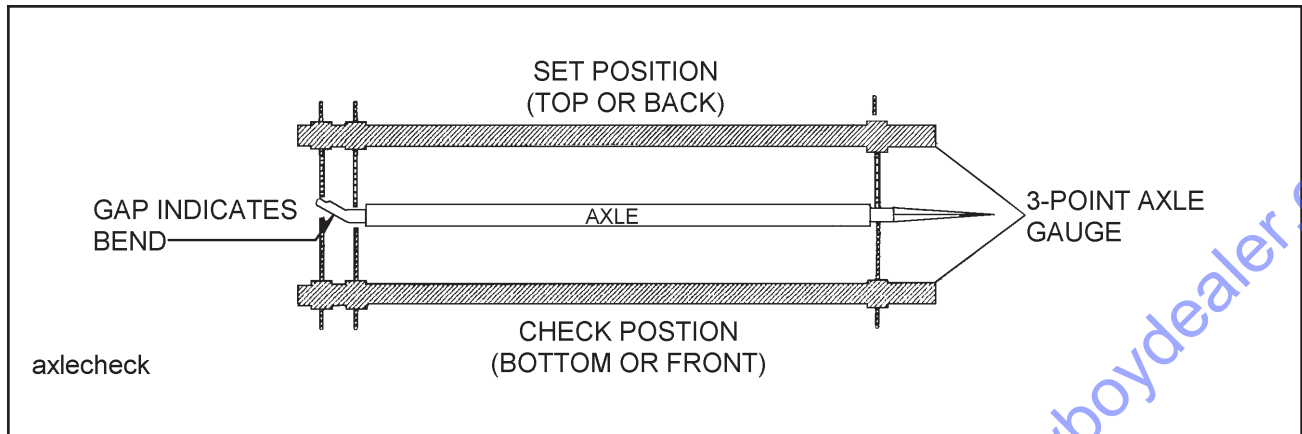

Figure 4-12 Checking Axle for Bend
- b. Place a 3-point axle gauge against the front side of the axle, and adjust each axle gauge point to the axle. (Double point end against the inner and outer wheel bearing surfaces of the spindle being checked and the other point on the inner bearing surface on the other spindle) (**See Figure 4-12**).
- c. Move the axle gauge and place against the back side of the axle. If either of the points of double point end fails to touch the axle surface, a bent spindle is evident. A point gap of .015" or more is considered excessive tire "toe" and the axle must be replaced (**See Figure 4-12**).